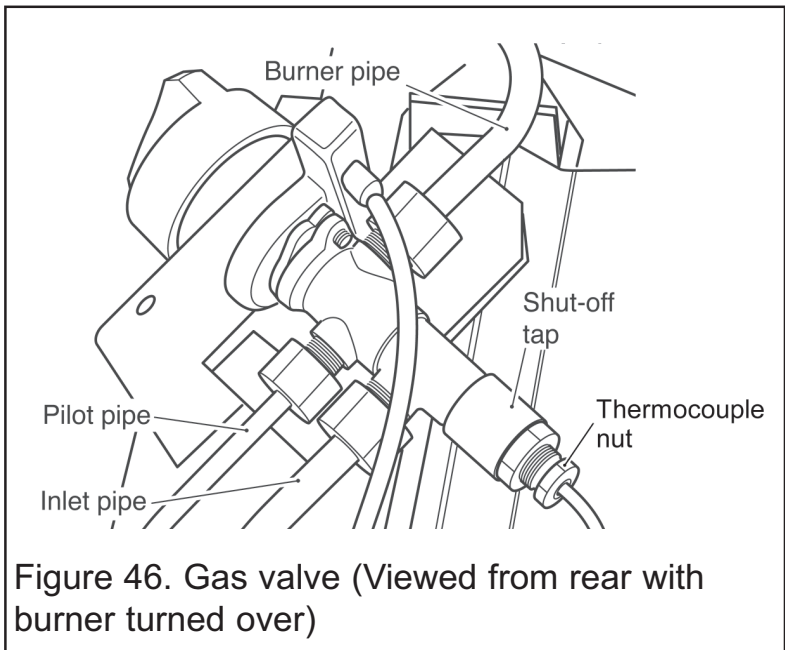

Figure 46. Gas valve (Viewed from rear with burner turned over)
## 17.14 - 945MC - To remove the gas valve. (See figure 46).
**17.17 - 945RC - To remove the gas valve.** (See figure 46).